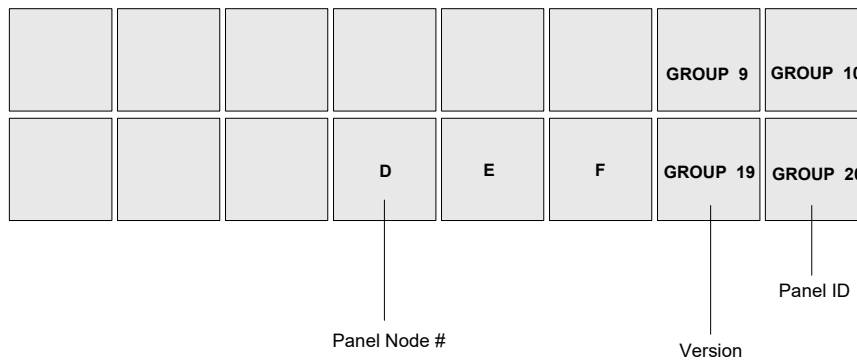

Figure 4-20. Keypad Buttons used for Miscellaneous Panel Modes
2. While holding, press one of the first seven keypad buttons, as shown in Figure 4-20. Button **1** is the brightest setting; button **7** is the dimmest setting.
2. While holding, press the **GRP 19** button as shown in Figure 4-20. In the **Source Display**, the panel’s software version appears.
2. While holding, press the **GRP 20** button as shown in Figure 4-20. In the **Source Display**, the panel's ID appears.